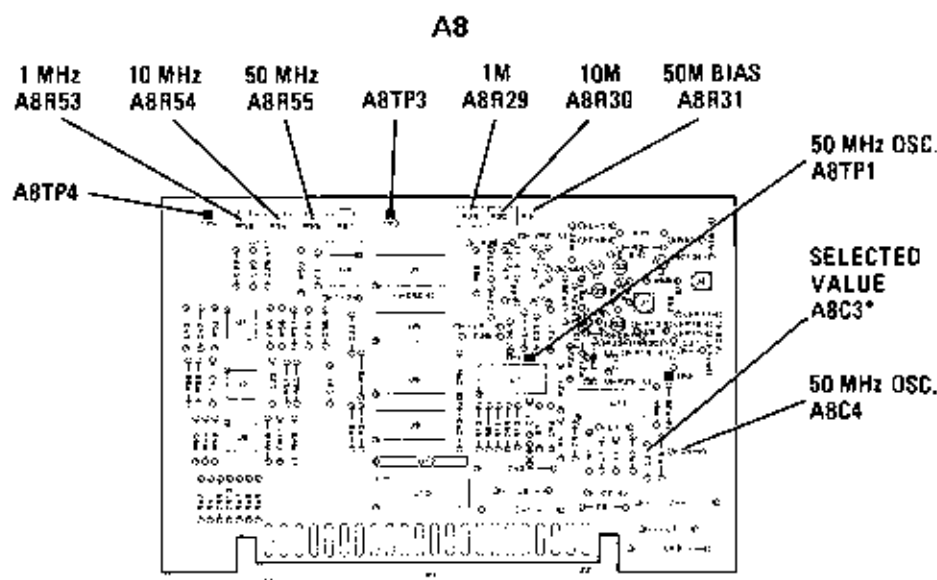
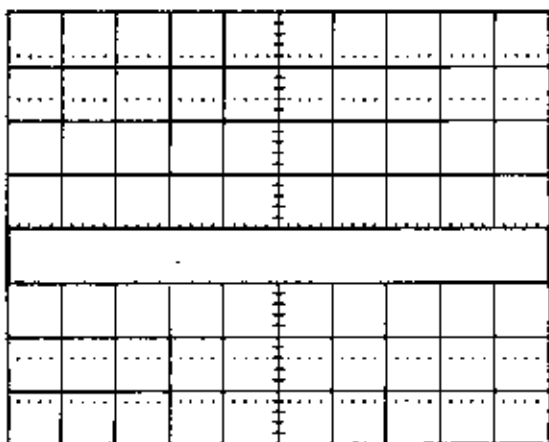

Figure 5-33. Marker Adjustments on A8
Figure 5-34. Marker Envelope
- Set 8350A **START/STOP** sweep for 10 MHz to 2.4 GHz. Select 83522A **AMPTD MARKERS**. Connect counter with 1:1 capacitive probe to A8TP1. Adjust A8C4 (Figure 5-33) for frequency counter indication of 50 MHz  $\pm$ 250 Hz. If A8C4 does not have the range required to adjust the 50 MHz crystal oscillator, select a new value for A8C3. (An increase in capacitance will decrease frequency.)
- Select 100 ms Sweep Time. Connect oscilloscope with 1:1 probe to A8TP3 (Figure 5-33). Set 8350A power to +13 dBm and select 1 MHz Markers. Adjust A8R29 (1M) for the flattest envelope height. (See Figure 5-34.) Select 10 MHz Markers. Adjust A8R30 (10M) for the flattest envelope height (Figure 5-33). Select 50 MHz markers. Adjust A8R31 (50M) for the flattest envelope height. (Optimum setting for these adjustments will be ones that provide the most uniform birdie height across the band with the adjustments nearest the center of their range.) Especially note birdie height at the high-frequency end and set the adjustment just before the marker amplitude drops off.
- Connect oscilloscope to A8TP4 (Figure 5-33). Set RF **POWER** to 0 dBm. Adjust IF gain potentiometers A8R53 (1 MHz), A8R54 (10 MHz), and A8R55 (50 MHz) for each marker frequency to an average envelope height of 1.0 V p-p.